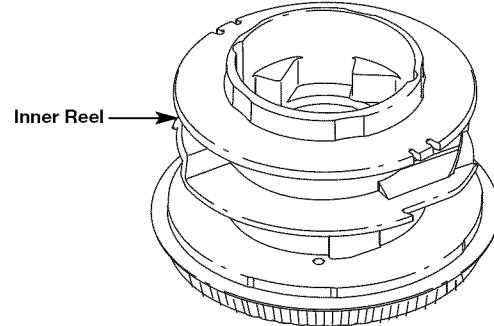

Fig. 19
4. If rewinding with new line, remove any existing line from the inner reel before cleaning. Remove any debris or grass from the knob, spring, inner reel and foam seal. Wash the inner reel with warm soapy water (Fig. 19).